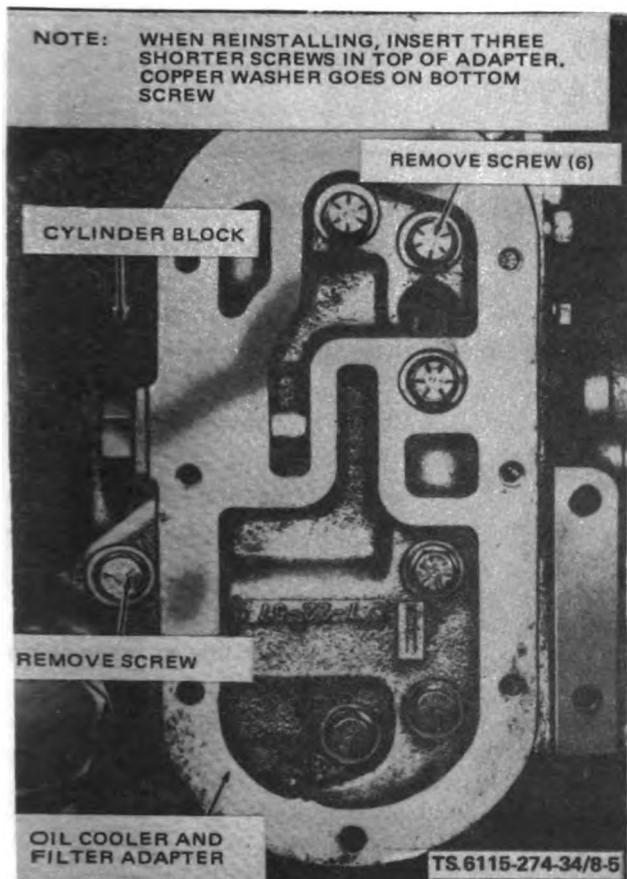

Figure 8-5. Oil Cooler and Filter Adapter, Removal and Installation
(18) Refer to figure 8-5 and remove the screws indicated.
(19) Remove the oil cooler and filter adapter.
(1) Install oil cooler and filter adapter with screws in accordance with figure 8-5.